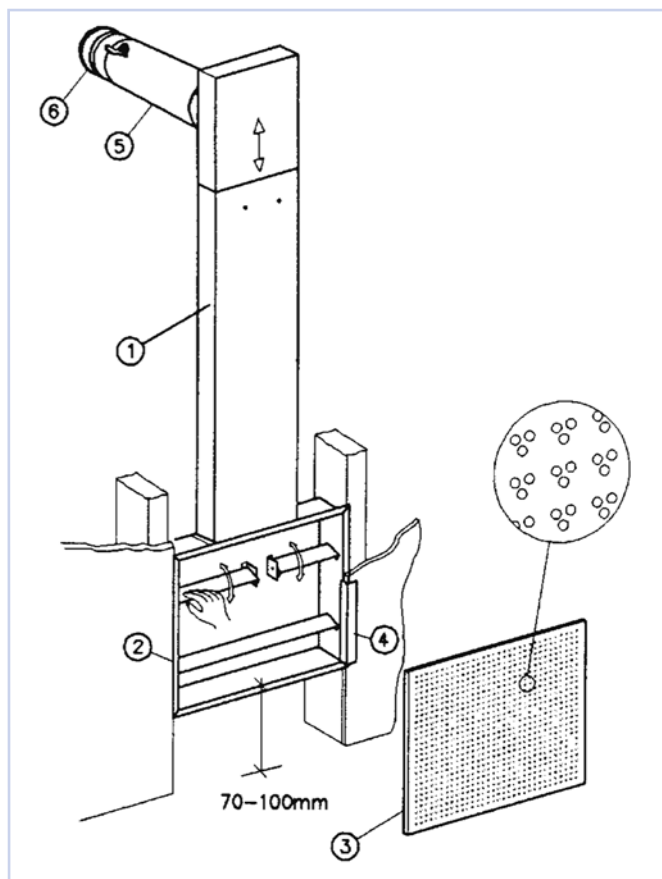

Fig. 3
Groove dimensions for box are BK x HK + approx. 5 mm. The height of the connecting duct is adjustable (see table 2, dim. L). Duct height is adjusted and sealed prior to installation in wall. NBI! If the unit is attached directly to the studding, the moulding should be fitted after the wainscot (see fig. 3). The front panel is fitted by using the screws supplied. Please also see the instructions.
- Pos. no. in fig. 3: